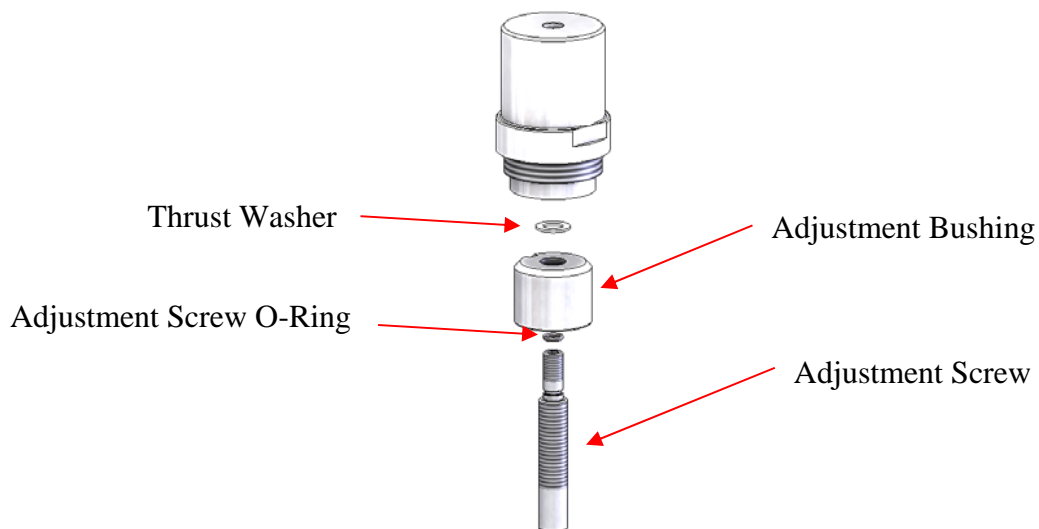

Figure 13: Bonnet Internal Components
9. Remove and discard the adjustment screw o-ring. See Figure 13.
10. Remove the thrust washer. See Figure 13.
11. Unscrew the adjustment bushing from the adjustment screw. The adjustment bushing has left handed threads. See Figure 13.